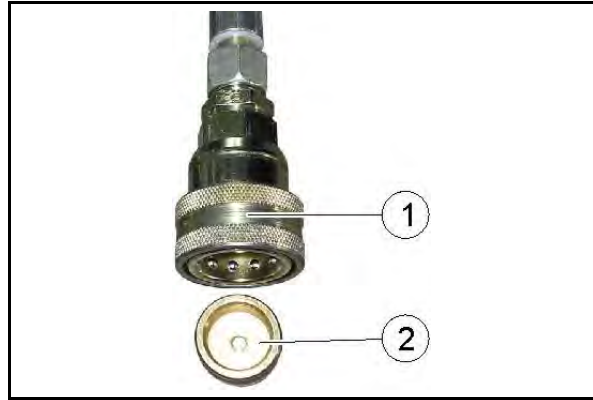

Fig. 66
2. Uncouple the hydraulic sleeve (Fig. 66/1).
3. Slip the hydraulic sleeve onto the machine's blanked-off connecting piece (Fig. 66/2).